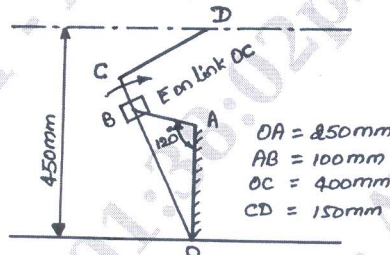

Fig.Q3
- The Fig.Q3 shows a crank and slotted lever type quick return mechanism. The crank rotates at a uniform speed of 60 rpm clockwise. The line of stroke of the ram is perpendicular to OA. Determine the Velocity and Acceleration of 'D'.